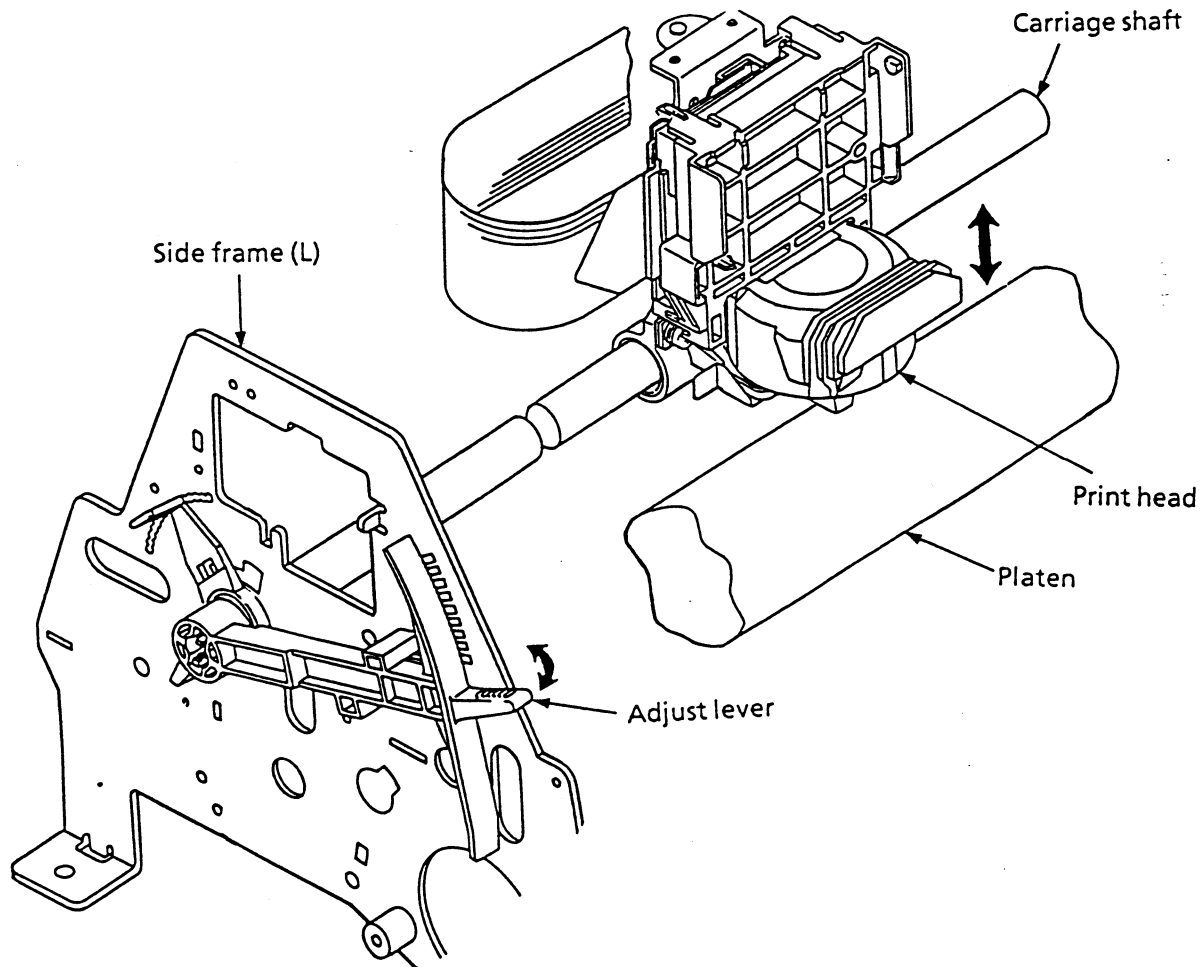

Figure 3-5
3.2.3 Head gap adjusting (See Figure 3-5.)